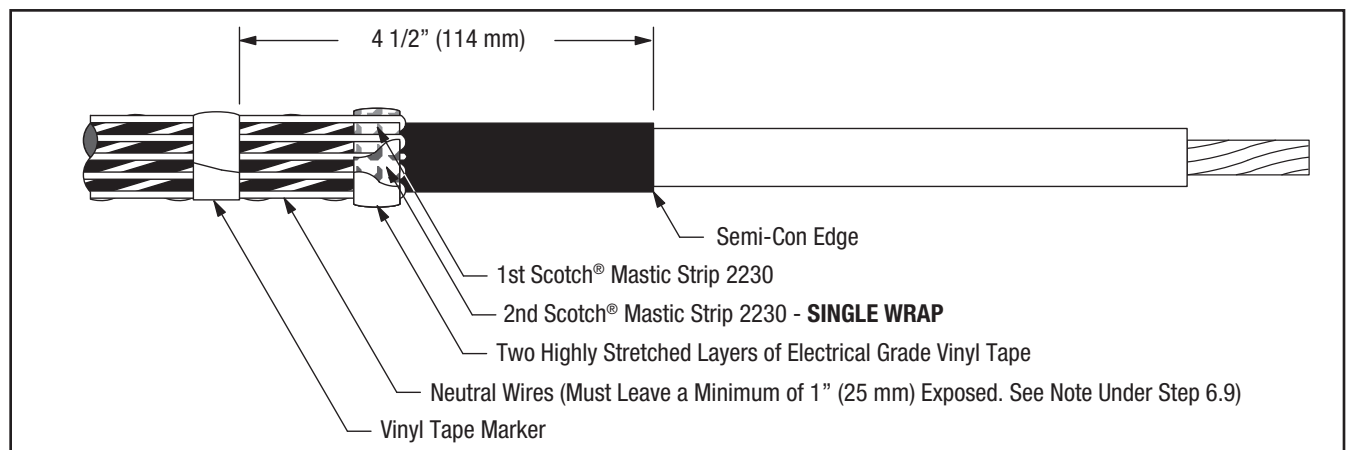

Figure 10
6.7 Bend neutral wires back over applied sealing mastic and secure to cable 4 1/2" (114 mm), below cable semicon edge using vinyl tape (see NOTE and Figure 10).
6.8 Select second Scotch® Mastic Strip 2230 from kit and remove white release liners. Apply a second **SINGLE WRAP** of mastic over the neutral wires and previously applied mastic (Figure 10). Cut off excess.
6.9 Compress neutral wires into Scotch® Mastic Strip 2230 by over-wrapping seal strips with two highly stretched layers of electrical grade vinyl tape (Figure 10). **Be sure to cover all exposed mastic.**